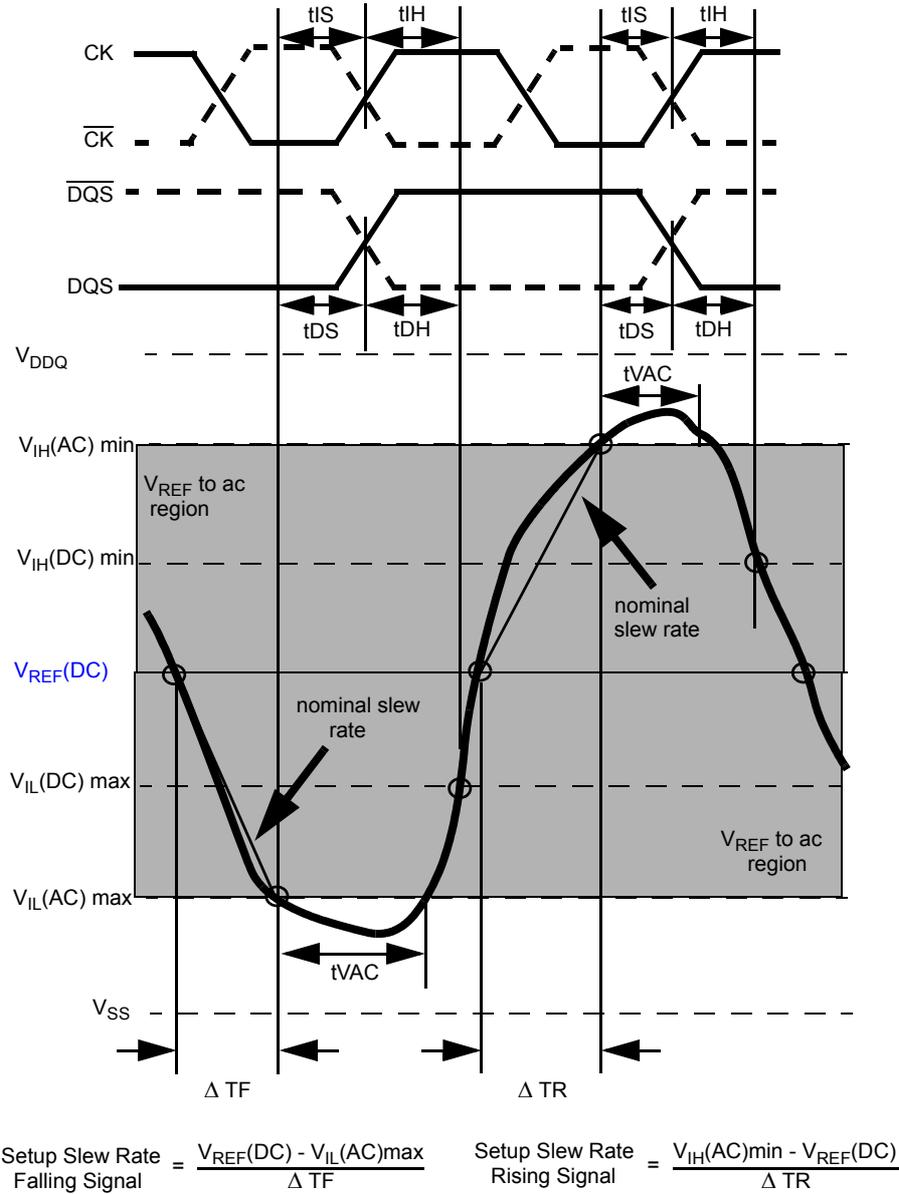
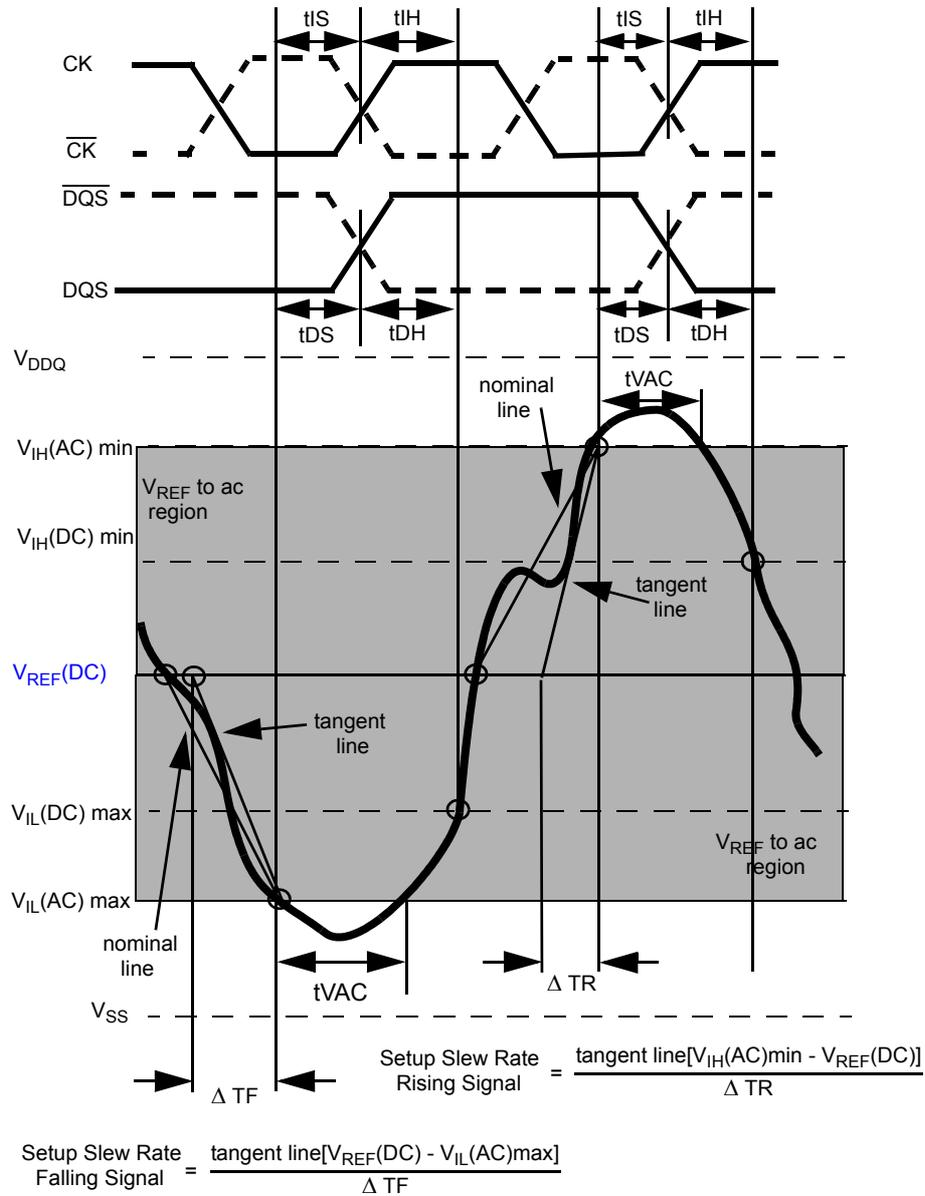

Figure 21. Illustration of nominal slew rate and t_{VAC} for setup time t_{DS} (for DQ with respect to strobe) and t_{IS} (for ADD/CMD with respect to clock).
Figure 23. Illustration of tangent line for setup time t_{DS} (for DQ with respect to strobe) and t_{IS} (for ADD/CMD with respect to clock)
Example: tIS (total setup time) = tIS(base) + ΔtIS Setup (tIS) nominal slew rate for a rising signal is defined as the slew rate between the last crossing of V_{REF}(DC) and the first crossing of V_{IH}(AC)min. Setup (tIS) nominal slew rate for a falling signal is defined as the slew rate between the last crossing of V_{REF}(DC) and the first crossing of V_{IL}(AC)max. If the actual signal is always earlier than the nominal slew rate line between shaded 'V_{REF}(DC) to ac region', use nominal slew rate for derating value (see Figure 21). If the actual signal is later than the nominal slew rate line anywhere between shaded 'V_{REF}(DC) to ac region', the slew rate of a tangent line to the actual signal from the ac level to dc level is used for derating value (see Figure 23).